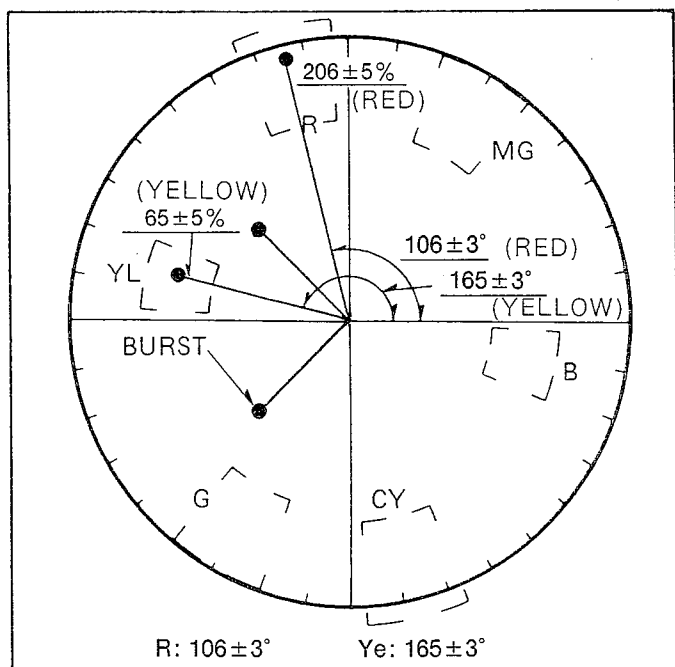

Fig. C25
- (6) When best point comes, push "SHIFT 1" key and "0" key together to write its adjusted data to EEPROM.
- (7) Change the address to "07"(B-Y Phase) by pushing the "ADR" key "0" key and "7" key.
- (8) Push the "INC" key or "DEC" key so that phase of Red and Yellow vectors approach to the spec.
- (9) When best point comes, push the "SHIFT 1" key and "0" key together to write its adjusted data.
- (10) Change the address to "0A"(R-Y Gain) by pushing "ADR" key, "0" key and "A" key.
- (11) Push the "INC" key or "DEC" key so that gain of Red and Yellow vectors approach to the spec.
- (12) When best point comes, push the "SHIFT 1" key and "0" key together to write its adjusted data.
- (13) Change the address to "08"(B-Y Gain).
- (14) Push the "INC" or "DEC" key so that gain of Red and Yellow vectors approach to the spec.
- (15) When best point comes, push the "SHIFT 1" key and "0" key together to write its adjusted data.
- (16) Repeat the 3 to 15 until vectors become within spec as shown in Fig.C25.